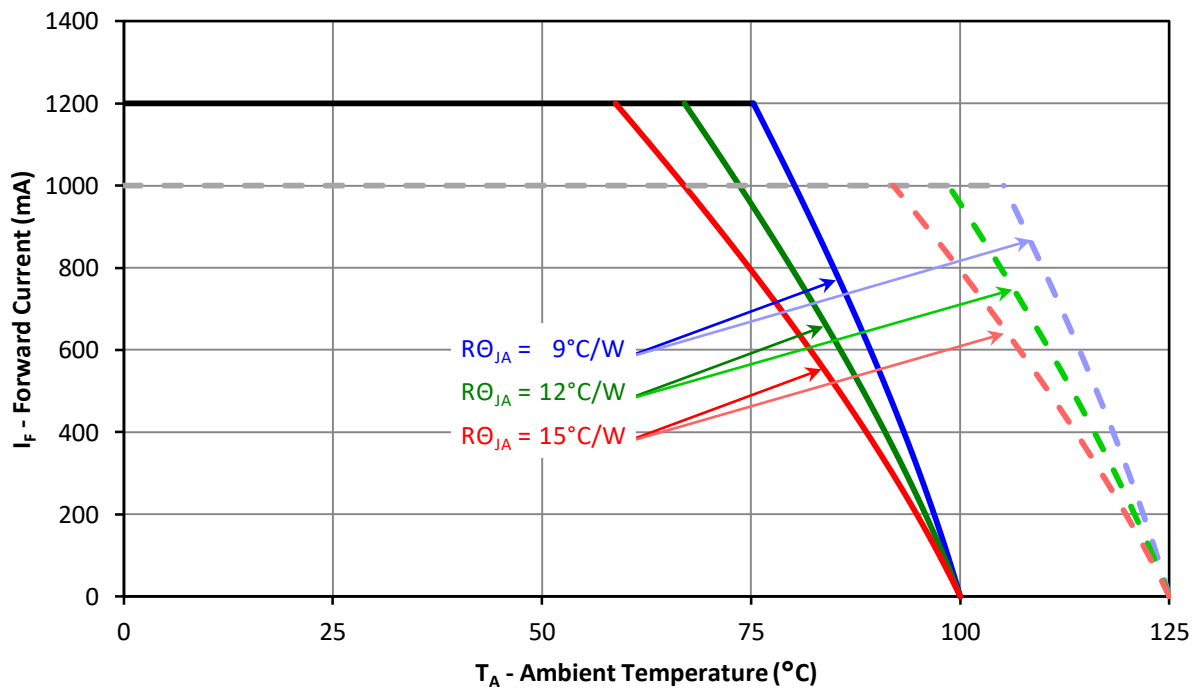

Figure 10: Maximum forward current vs. ambient temperature
1. Maximum DC forward current is determined by the overall thermal resistance and ambient temperature. Follow the curves in Figure 10 for current derating.
Notes for Figure 10: